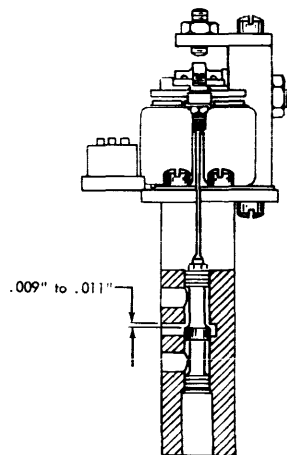

Figure 47. Space Valve in Start Position
4. With the space-start-magnet energized, adjust the nuts at the top of the operating rod for .009" to .011" clearance between the top of the valve and the top surface of the rectangular port in the valve body (Figure 47).